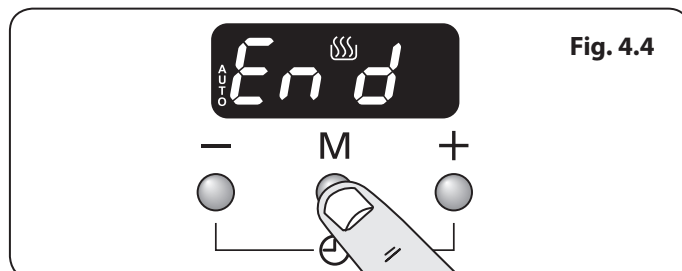

Fig. 4.4
1. Press the mode [M] button 3 times, until the display flashes 'End' (**Fig. 4.4**).